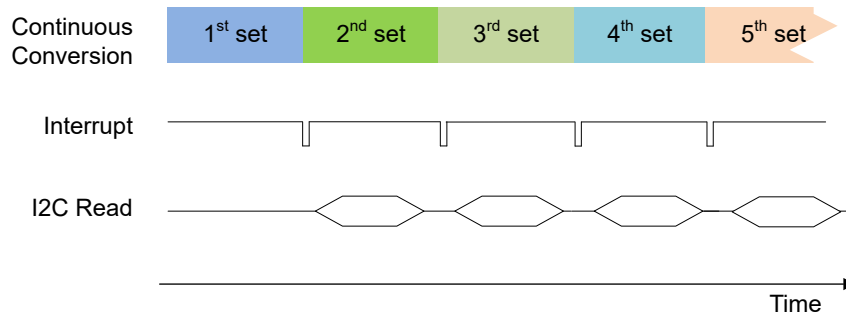

図 7-10. Continuous Conversion With AC Line Power
- Wait for the $\overline{\text{INT}}$ signal assert low to indicate conversion complete. When $\overline{\text{INT}}$ goes low, perform the 16-bit T, X, Y, Z register read with one single read command (see Figure 7-10).